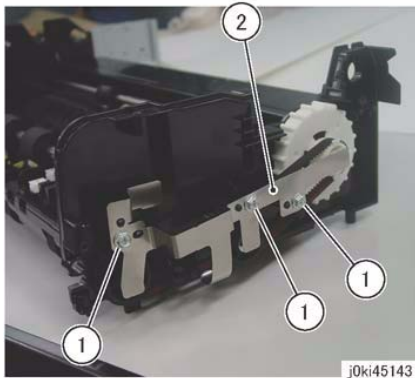

Figure 6 Ground Plate Removal
15. Remove the Ground Plate at the front. (Figure 6)